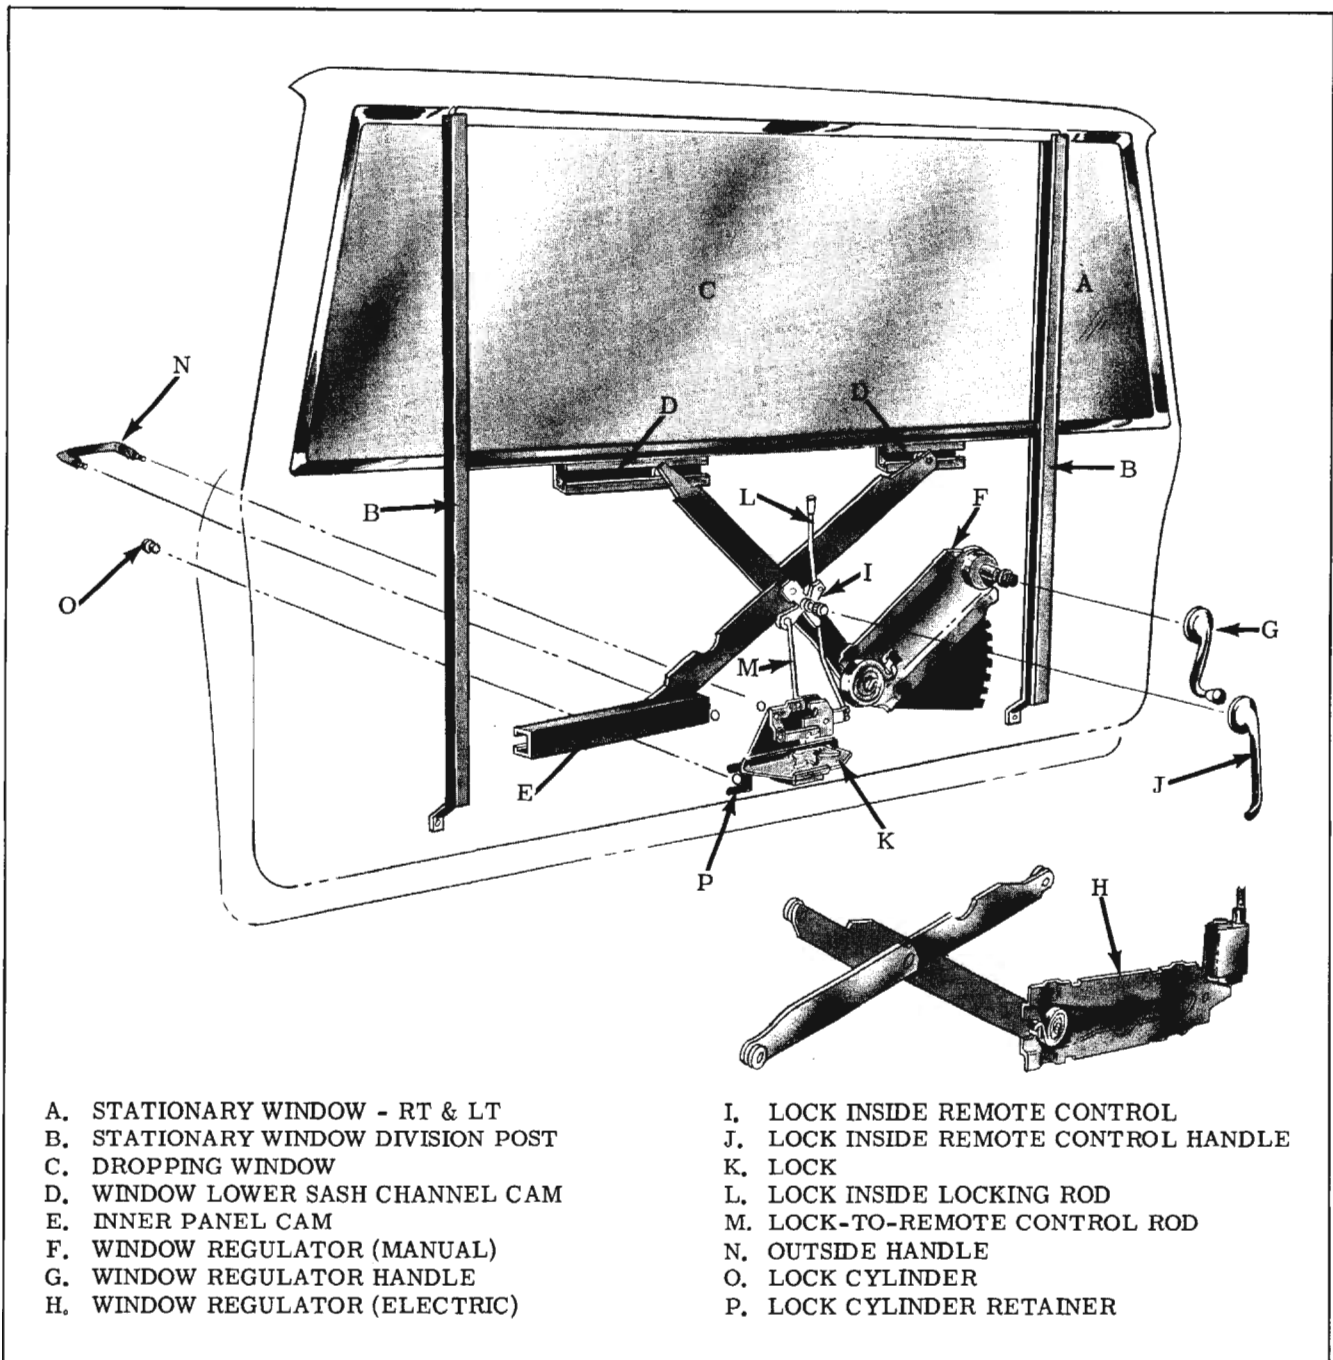

Fig. 16-288 Back Door Window Mechanism
2. Remove remote control attaching screws. (Fig. 16-288) Disengage locking rods from remote control and remove remote control from back door.
2. Remove remote control attaching screws. (Fig. 16-288) Disconnect remote control from connecting rod and remove remote control.
3. Remove screws securing remote control support plate. (Fig. 16-288) Move support plate towards right side of door to disengage inner panel cam from regulator arm roller and remove support plate.
4. Remove regulator attaching screws (Fig. 16-288) and remove regulator by moving it to right to disengage it from window lower sash channel cams.
2. Remove back door lock inside handle remote control attaching screws. (Fig. 16-288) Disconnect remote control from connecting rod and remove remote control.
3. Remove screws securing inside handle remote control support plate (Fig. 16-288); then, move
4. Remove regulator attaching screws (Fig. 16-288) and remove regulator.